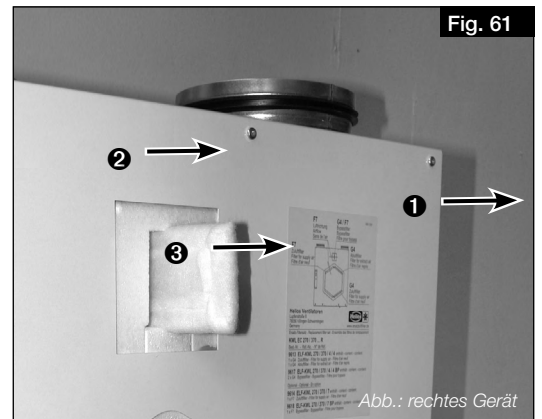

Fig. 61
2. Pull intake air filter **1** to the front and replace (see Fig. 61).
3. Pull extract air filter **2** (incl. frame) to the front and replace (see Fig. 61).
4. **Optional:** Pull fine/pollen filter (ePM1 50 %) **3** incl. frame to the front and replace (see Fig. 61).
① **Confirm via the easyControls 3.0 software or KWL-BE Touch.**